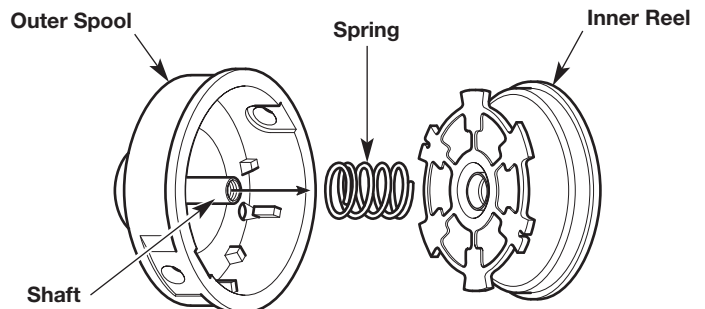

Fig. 27
3. Remove the inner reel from the outer spool (Fig. 27).
4. Remove the spring from the inner reel (Fig. 27).